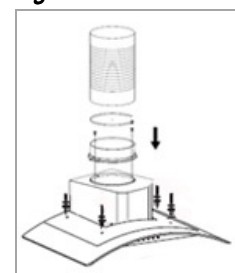

Fig. 2a
- Affix the connecting piece with inserted non-return valves from the top of the extraction duct with the screws 2x ST4*8mm. Insert the two non-return valves by lightly bending them from above into the connecting piece (*Fig. 2a*).